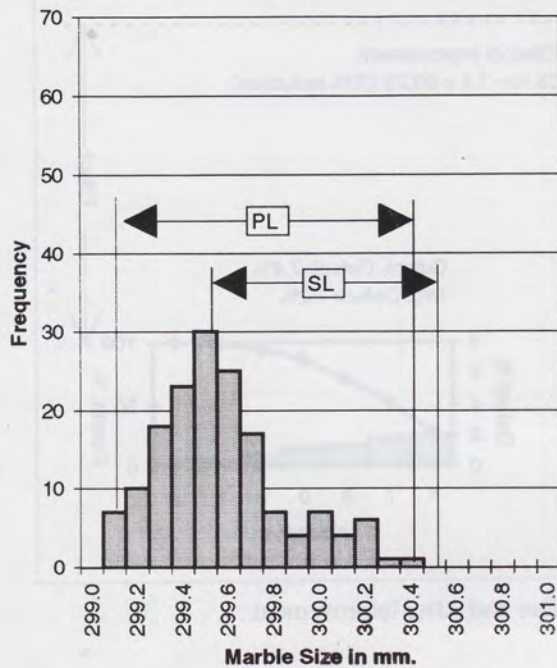

Figure 6 : Histogram I
- a) Data on a total of 150 samples of 300 mm dimension marble of two hourly production of EC # 8 during the period 2053.10.26 to 2053.11.2 (February 8~13) were collected. The analysis of the histogram subsequently drawn revealed that the mode for the 300 mm size shifted to the left, i.e., lower than the mean. The process limit ranged from +0.4 to -1.0, whereas, the specification limit desired by the market and adopted by the circle was ± 0.5 mm. [Refer to Figure 6 : Histogram I]